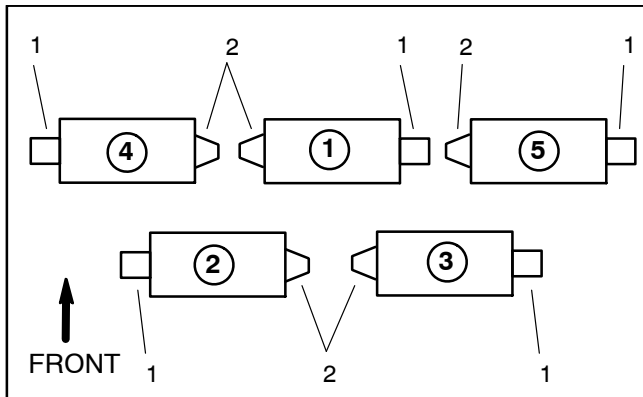

Figure 20
**NOTE:** Refer to Figure 20 for correct placement of cutting unit reel motors and weights.
4. Rotate the motor counter-clockwise until the motor flanges are encircling the cap screws. Tighten two (2) cap screws to secure reel motor to cutting unit.